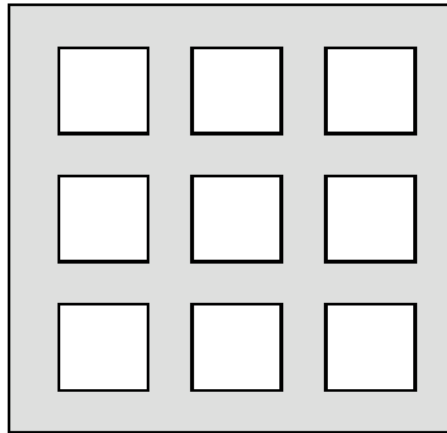

Figure 12 Solder paste application on exposed pad
3. For the PCB thermal pad, solder paste should be printed on the PCB by designing a stencil with an array of smaller openings that sum to 50% of the QFN exposed pad area. Solder paste should be applied through an array of squares (or circles) as shown in Figure 12.